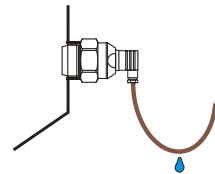

Fig. 3: Prevention to avoid intrusion of humidity
- If possible, insert the cable from above and let a draining loop in order to avoid intrusion of humidity (fig. 3).